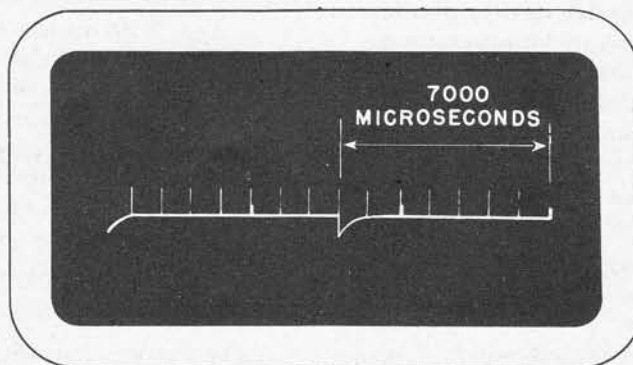

Figure 3-33. Function Switch at Position "4"
2. EXAMPLE 2.—A reading of 7 complete 1,000-microsecond intervals (7,000 microseconds), with a remaining interval too small to be estimated, is illustrated in figure 3-33.